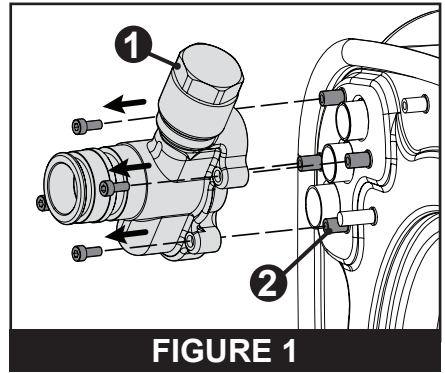
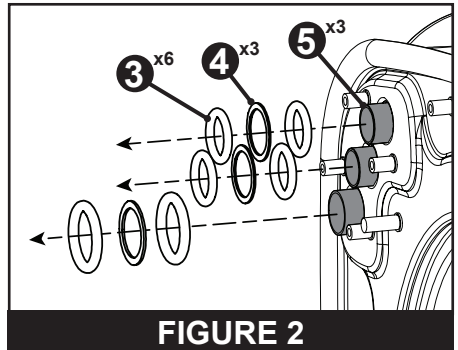

FIGURE 1
FIGURE 2
4. Remove the four 3 mm hex-head screws securing the *Inlet/Outlet Assembly (1)* to the *Heat Exchanger (2)*. Refer to **FIGURE 1**.
5. Pull the *Inlet/Outlet Assembly (1)* away from the heat exchanger and remove it.
6. Remove the *O-rings (3)* and *Washers (4)* from each of the three *Inlet/Outlet Tubes (5)*. Refer to **FIGURE 2**.